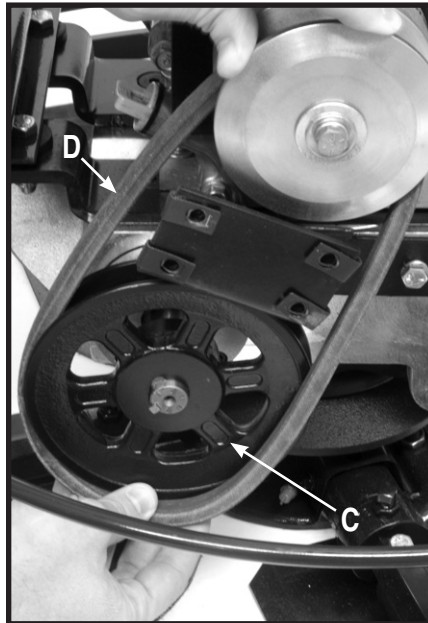

Figure 2
2. Rotate the pulley (C) while pulling the bottom of the belt (D) out. See figure 2.